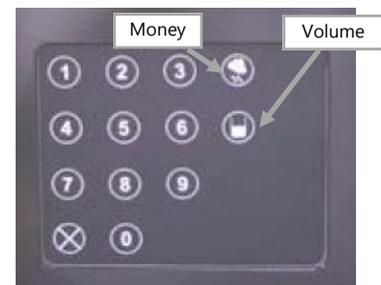

Figure B.2 – Preset Keypad
1. Press the **Money** button to change to money preset or the **Volume** button to change to volume preset as shown in Figure B.2.